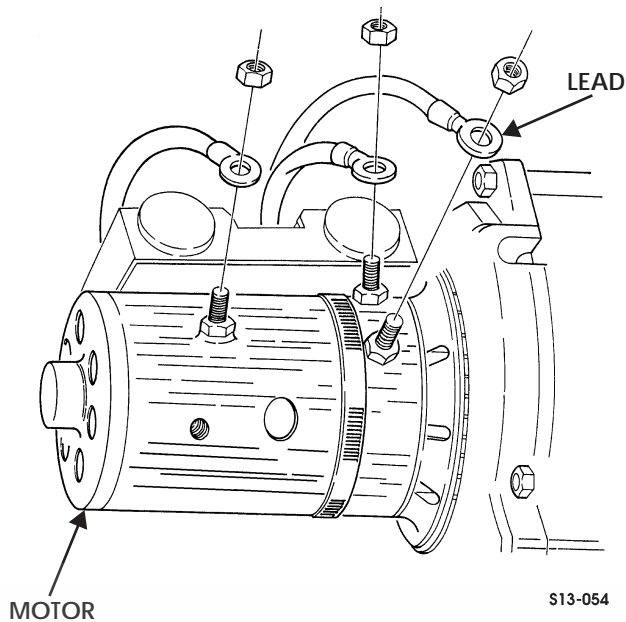

Figure 13-27: Control Leads
- Connect three control leads to terminals and secure with nuts (Figure 13-27).